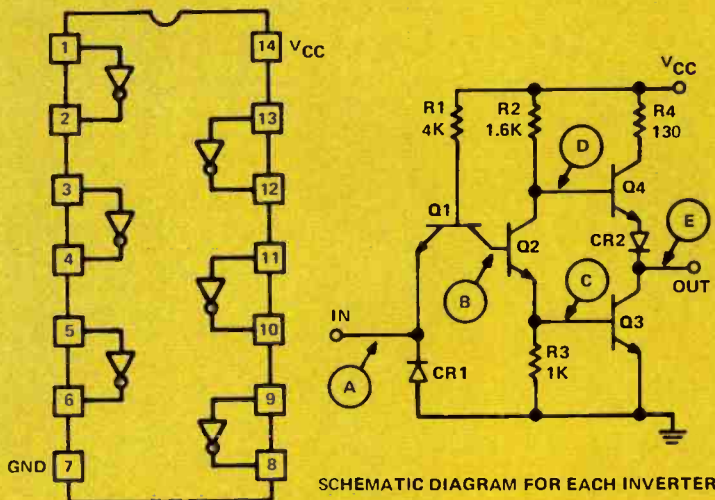
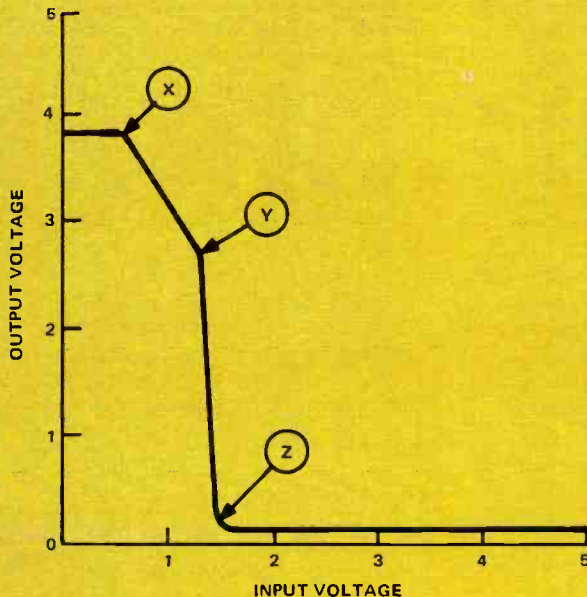

Fig. 10. Type 7404 Hex Inverters (TTL)
Fig. 11. Typical Transfer Characteristic for a TTL Inverter
A basic TTL inverter circuit, specifically that used in the Type 7404 hex inverter, is shown in Fig. 10. Q1 is the special input transistor which substitutes for a pair of diodes in the corresponding DTL circuit. Q1 is used in an unusual way, in that its collector junction (as well as its emitter junction) may become forward-biased un-
As an aid in interpreting the circuit of Fig. 10, let us assume that the input terminal is held at ground potential. Under these circumstances, the emitter junction of Q1 is forward-biased through R1, and the base of Q1 is at a potential of about 0.7 volts. This potential is too low to turn on the series combination of the collector junction of Q1, the emitter junction of Q2 and the emitter junction of Q3; the actual voltages at points (B) and (C) will be approximately 0.47 volts and 0.23 volts. It follows, therefore, that tran-
The transfer characteristic of a typical TTL inverter is shown in Fig. 11. As pointed out in the preceding analysis, the output terminal will be at a logic HIGH value of nominally +3.8 volts when the input is held at or near ground potential. There is no change in the output level until the input rises to about 0.65 volts (point X in Fig. 11), at which time the potential at point (b) in the circuit of Fig. 10 reaches the value which permits Q2 to start conducting. As Q2 starts conducting, it functions as a conventional common-emitter amplifier with a gain of -1.6 , established by the ratio of R2 to R3. The voltage at the output terminal (e) moves downward in response to the downward movement at point (d), following a slope of -1.6 between the points labeled X and Y in Fig. 11. When the input voltage rises to about 1.2 volts, Q3 begins to conduct and its low base-to-emitter resistance shunts R3 and greatly increases the gain of Q2. The output voltage therefore falls rapidly from Y to Z on Fig. 11 as Q4 is cut off and Q3 is driven into saturation. The final value of voltage at Z is a function of how much current is drawn into the output terminal, which is in turn a function of the fan out (or the number of gate inputs connected to the output terminal).
- TTL gates tend to generate somewhat more noise than DTL gates because there are brief periods during transitions when transistors Q2, Q3 and Q4 (in Fig. 10) are all "on" simultaneously, causing brief "spikes" of current to be drawn from the power supply. Because of this current spiking effect, it is common practice to place decoupling capacitors (usually of 0.01 to 0.1 ufd) at intervals of every four or five packages along the power supply busses interconnecting groups of TTL gates.
- In principle, the output terminals of TTL gates with totem-pole output stages may be shorted to ground without damaging the gates, but this practice is not recommended because the gates are placed under abnormal stress. The chief function of resistor R4 in the basic circuit of Fig. 10 is to limit the short-circuit current to a safe value, but when the output is shorted the current drawn from the power supply is substantially greater than normal and the temperature within the package will rise above normal levels.